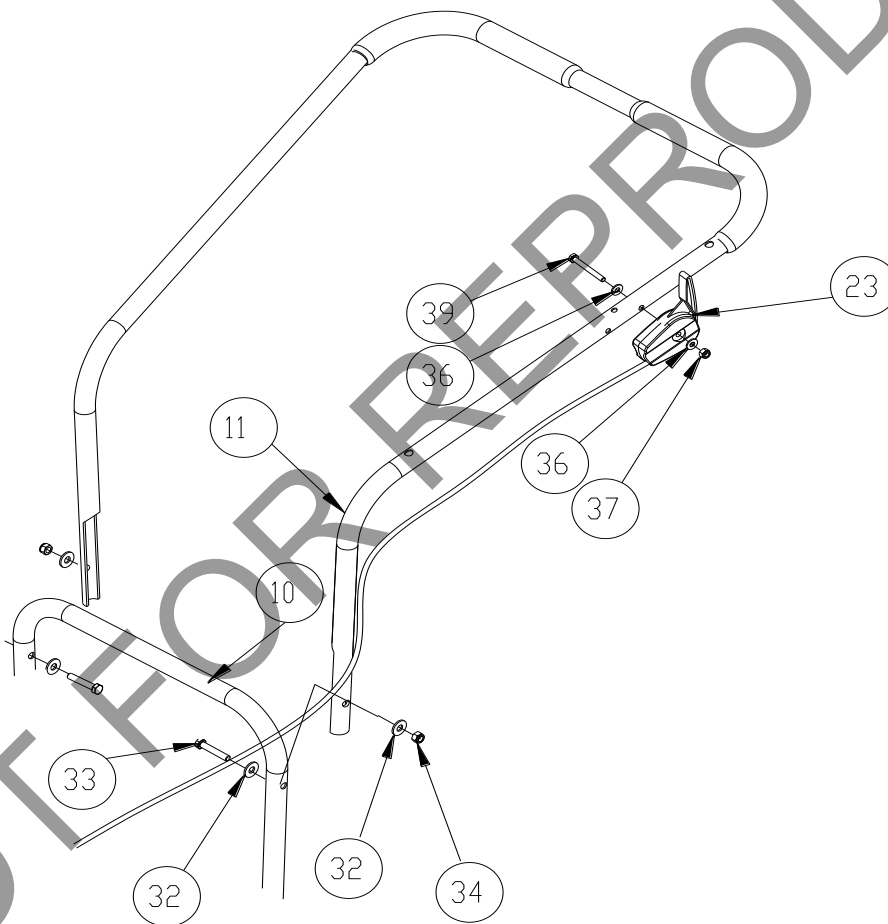
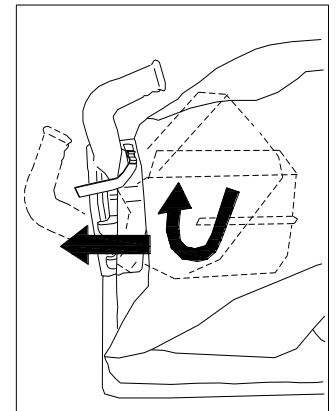

Fig. 1
Fig. 2
1. **ASSEMBLE** Lift upper handle (item 11), remove items 34, 32, and 33 from the parts bag. Attach and secure upper handle as shown using same hardware. (See Fig. 1)
2. **ATTACH** the throttle lever (item 23) to the handle, either to the right side or left depending on which model of engine you have (see image below). Attach the lever with the hardware (items 36, 37, and 39) found in the parts bag. Once attached use the Ty-wrap to secure the cable to the handle.
3. **UNFOLD** the debris bag (item 21) and fasten bag neck to bag quick disconnect (item 12). Attach firmly to housing exhaust (item 1) see Fig. 2 and 3.
4. **ATTACH** bag hanger strap to bag supports (item 13), preassembled to upper handle.